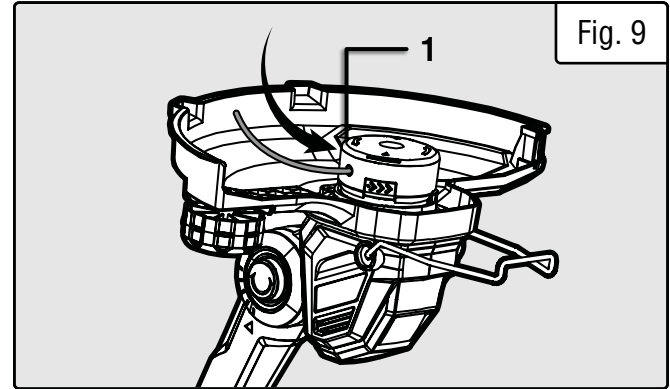

Fig. 9
2. You can also manually feed the string. Press the string feed button (Fig. 9 - 1) on the spool casing and adjust the string to the desired length.